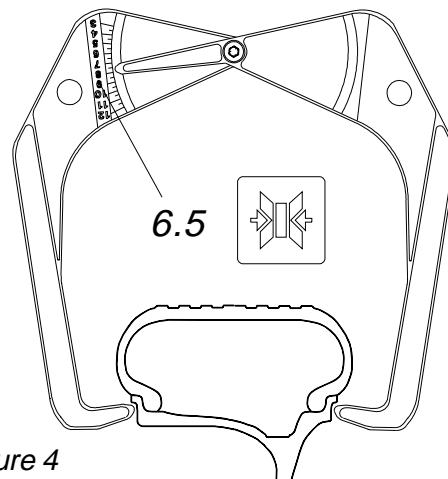

Figure 4
3. **Measure rim width** using rim width calipers. Measure wheel where corrective weight will be applied, *Figure 4*. Enter the measured diameter directly using the **Quick Set** method by rotating the wheel assembly until the desired number appears in the width parameter window.